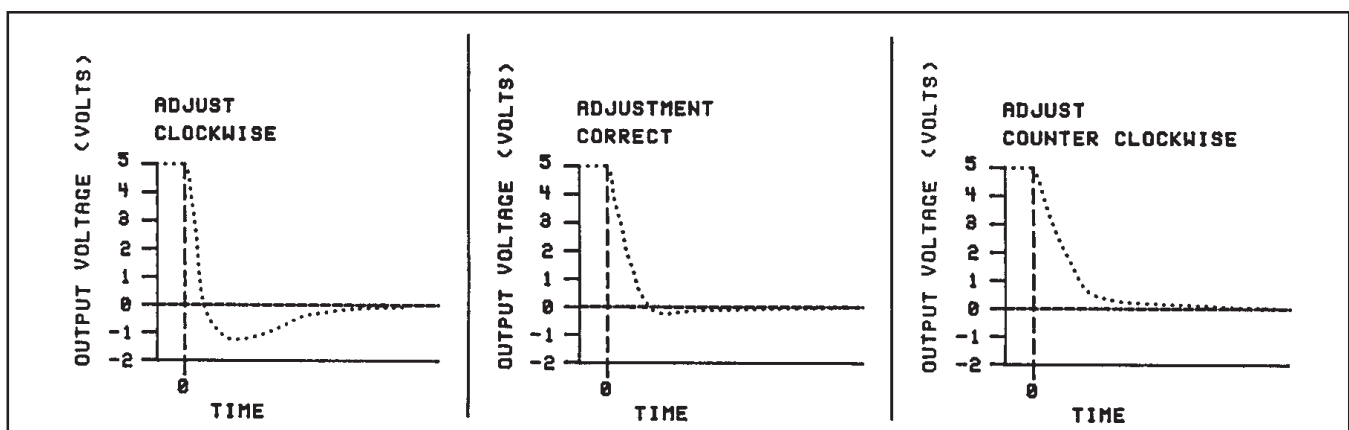

Figure 3-9 Response Adjustment
- c. The behavior of the flow signal during this transition between 100% and zero percent flow indicates the adjustment required of the anticipate potentiometer. Refer to Figure 3-9.